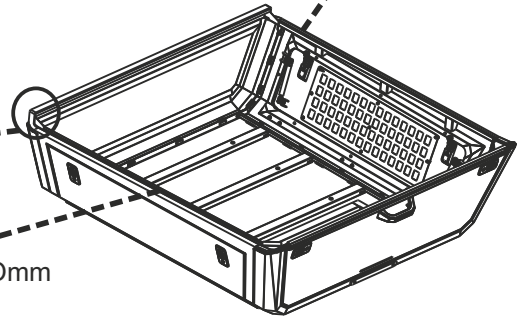

FIGURE 2
3. APPLY FOAM STRIP ON THE FRONT LIP OF THE CAP FRONT FLANGE. [SEE FIGURE 2]
4. CUT TO THE CORNER. [SEE FIGURE 2]